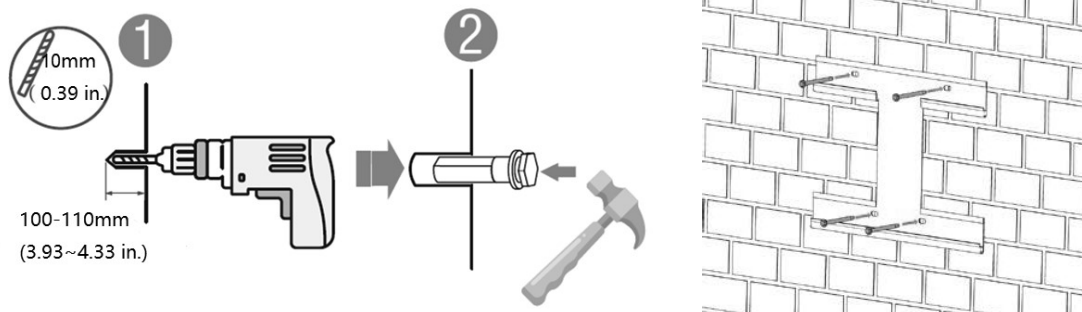

Figure 5-1
b) Choose the recommend drill head (as shown in Figure 5-1) to drill 4 holes on the wall, 100mm-110mm deep.
c) Use a proper hammer to fixing the hanging plate to the wall, fit the expansion bolt (M6*100) into the holes, as shown in Figure 5-1.